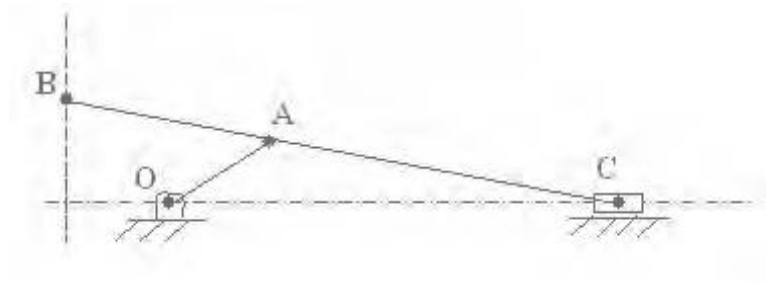

Figure 7
7. In the figure 7 shown OA and AC are the crank and connecting rod respectively. B is a point lying on the extension of AC. Find the length of the crank in order that the point B traverses approximately along a straight line when the connecting rod rotates from angle  $\theta_1$  to angle  $\theta_2$ . [15]